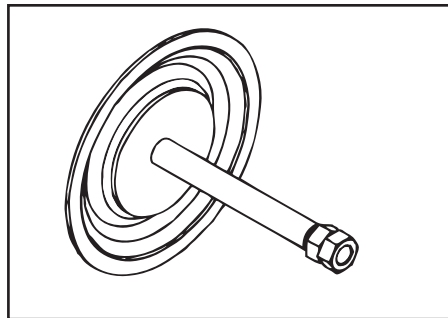

Figure 25
- Remove the nut on the opposite side using the double nut (See Figure 25).